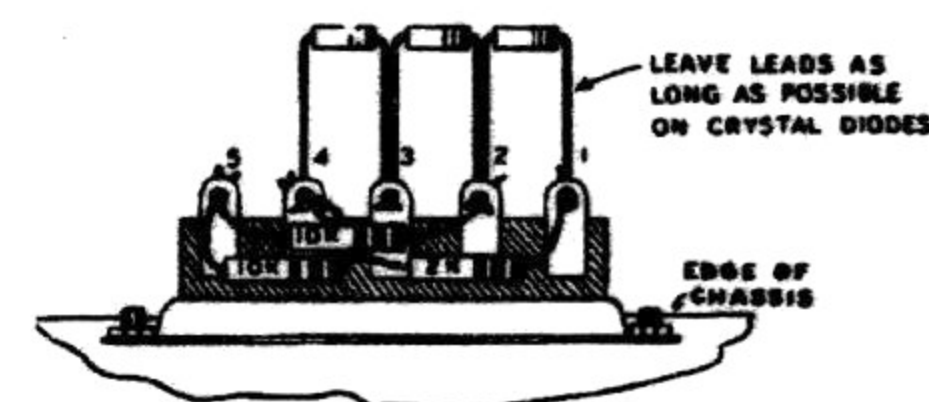
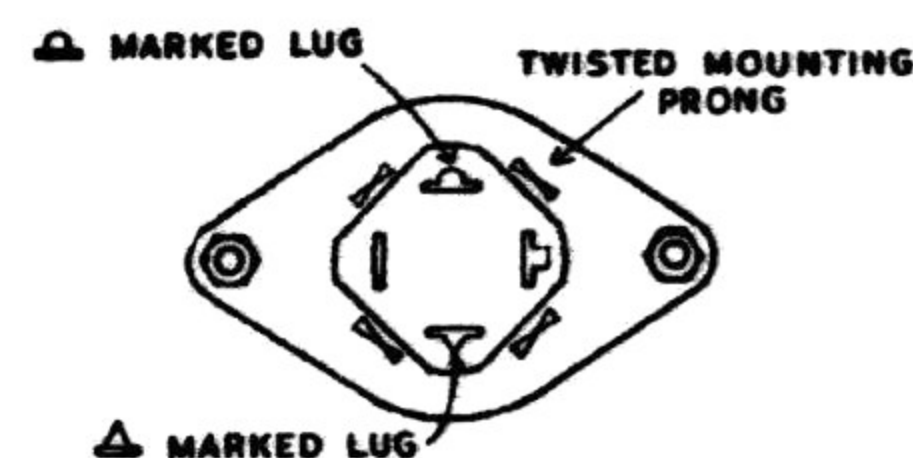

Figure 8
Figure 9
- ( ) Connect a 2 K $\Omega$  resistor between lug 1 (NS) and lug 4 (NS). See Figure 8.
- ( ) Connect a 10 K $\Omega$  resistor between lug 4 (NS) and lug 5 (NS).
- ( ) Connect another 10 K $\Omega$  resistor between lug 2 (NS) and lug 5 (NS). Make sure the lead wires do not touch connections to lug 4.
- ( ) Connect a 5 1/2" wire between lug 4 (NS) and the negative (-) lug (S) on the meter.
- ( ) Connect a 7 1/2" wire between lug 2 (NS) and the positive (+) lug (S) on the meter.
- ( ) Connect a crystal diode with the cathode lead (see page 23 for coding of cathode on diodes) to lug 1 (S) (2). Connect the other lead to lug 2 (NS). Leave leads as long as possible.
- ( ) Connect a second crystal diode with the cathode lead to lug 2 (S) (4). Connect the other lead to lug 3 (NS). Leave leads as long as possible.
- ( ) Connect a third crystal diode with the cathode lead to lug 3 (NS). Connect the other lead to lug 4 (S) (4). Leave leads as long as possible.
- ( ) Install the filter condenser on top of the chassis by passing the mounting prongs through the slots in the mounting wafer, (make sure the condenser is properly positioned) and twist the prongs 1/8 turn with a pair of pliers. See Figure 9 and Pictorial 1 on Page 6.